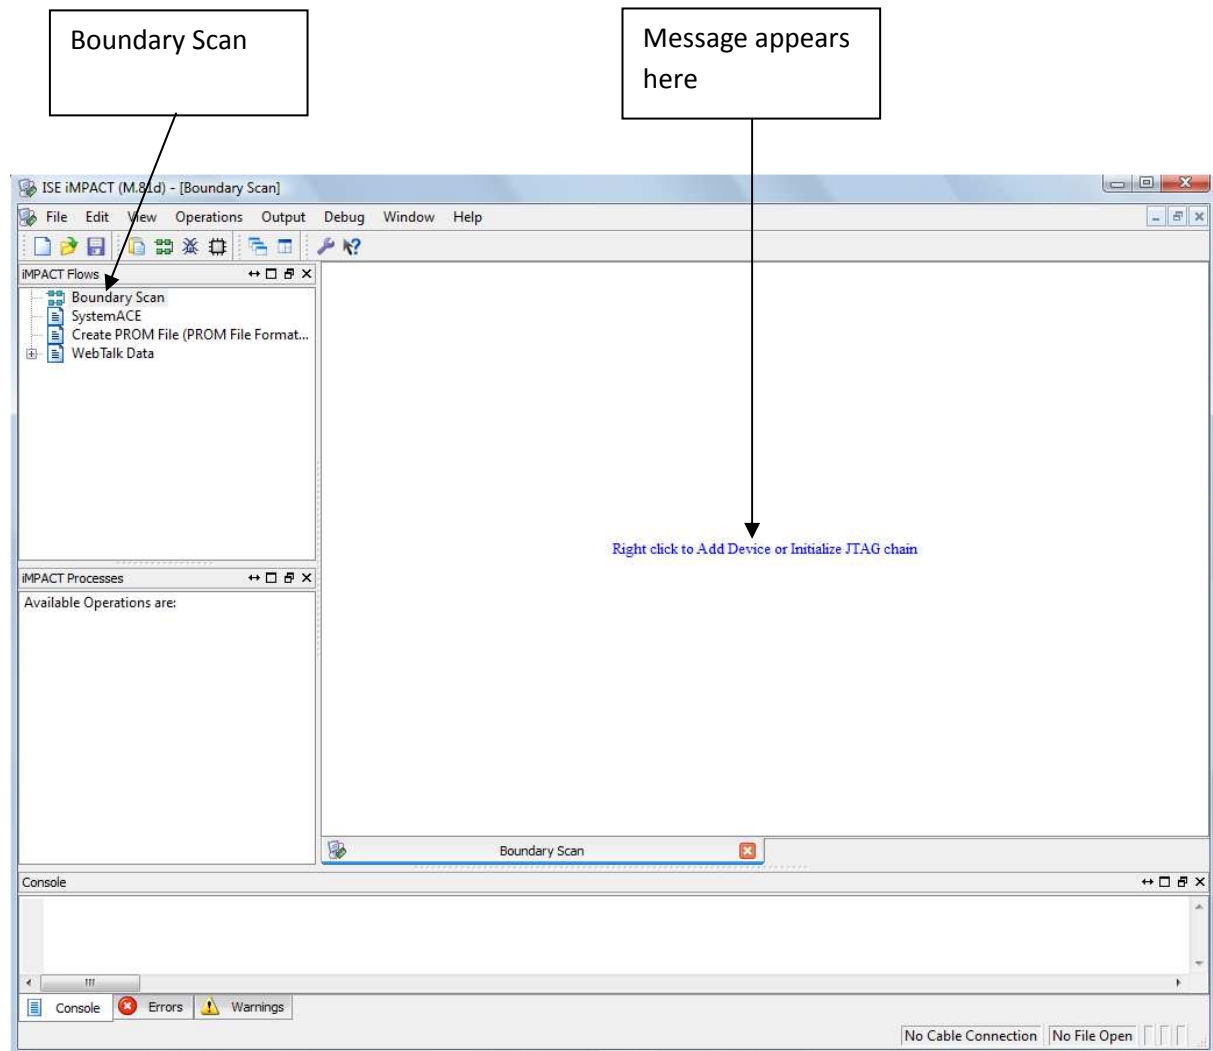

Figure 6.50: iMPACT window, after double-clicking on Boundary Scan.
5. Double-click on Boundary Scan as shown in Figure 6.50. The message “Right click to Add Device or Initialize JTAG Chain” should appear to the right.